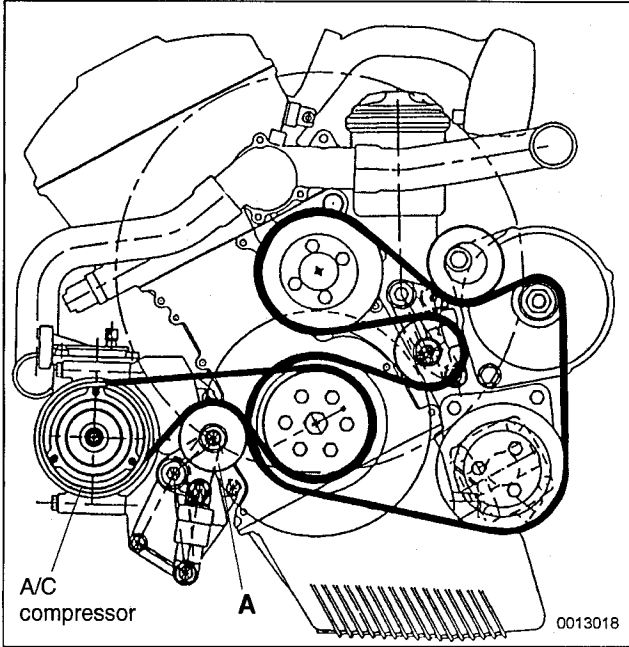

Fig. 36. 6-cylinder engine belt diagram: To remove A/C belt, lever tensioner (A) in clockwise direction using long-handled wrench or breaker-bar.
5. On 6-cylinder engines: Release tension on A/C belt by turning tensioner pulley clockwise (against spring tension). See Fig. 36.